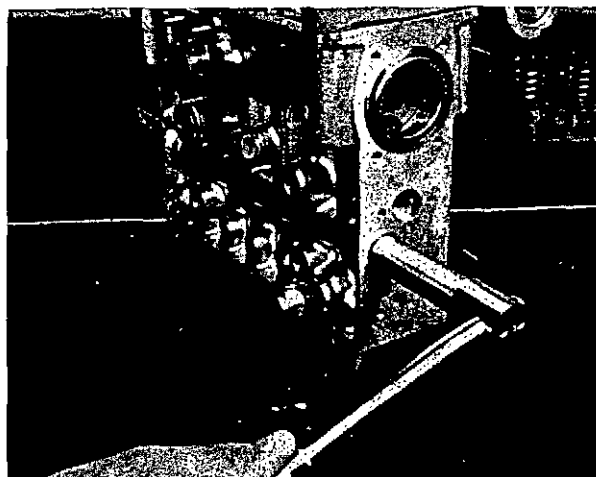

Fig. 17 Unscrewing threaded bush
14. Using pin spanner 1 687 950 075, unscrew the threaded bush (fig. 17) and pull out the control rack and its dowel pin. Remove the control rack guide at the drive end by means of a wire hook and then use a long drift to tap out the guide at the governor end.